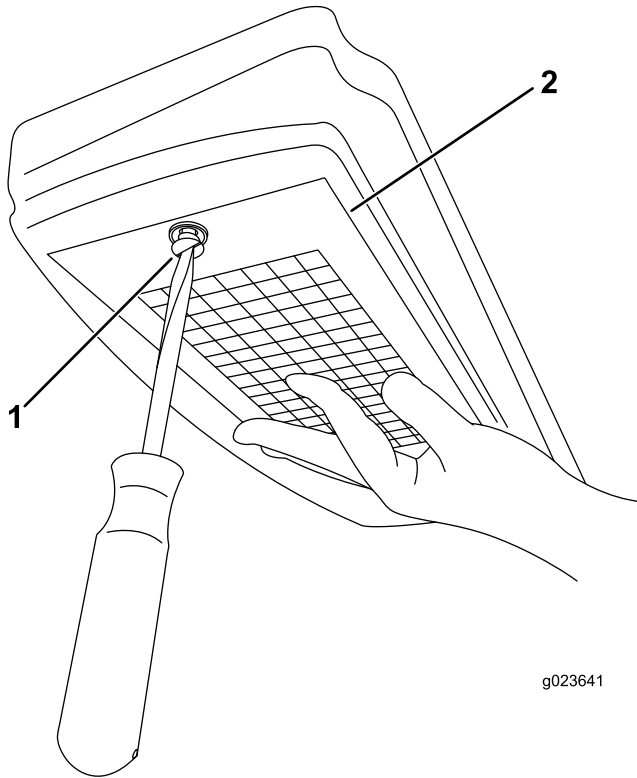

Figure 162
3. Remove the screw and the cover that house the air filter (Figure 162).